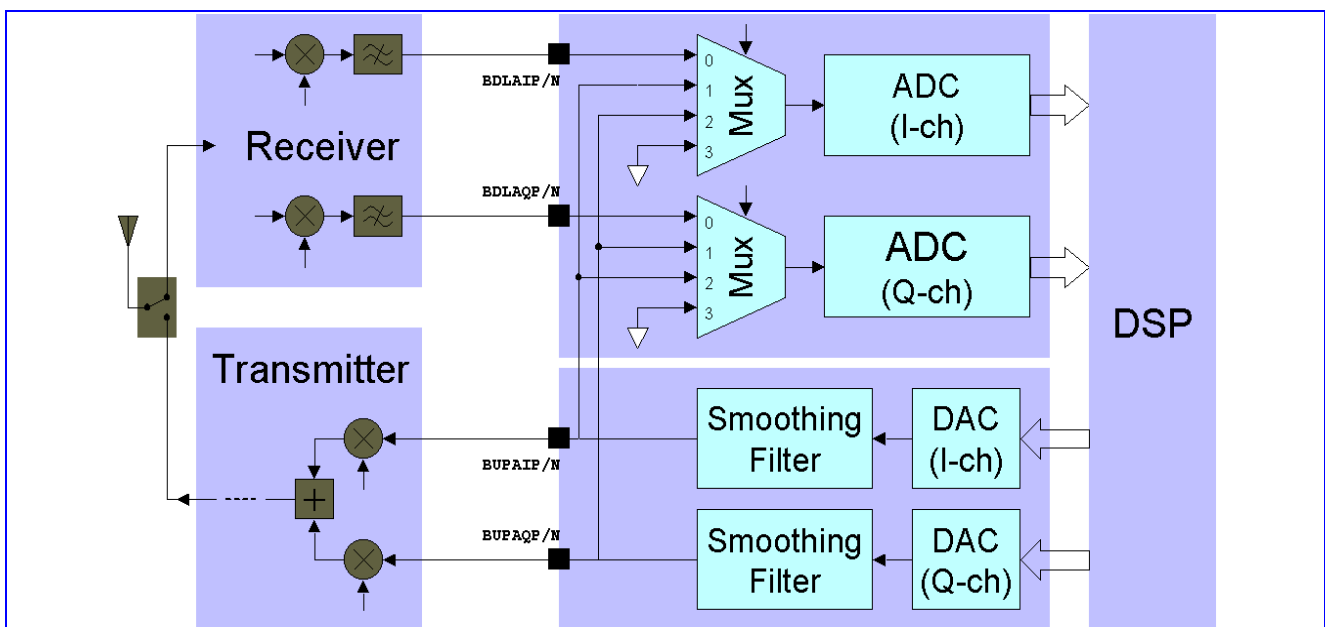

Figure 95 Base-band A/D and D/A Offset and Gain Calibration
The base-band downlink receiver (RX), together with the base-band uplink transmitter (TX) introduced in the next section, provides necessary analog hardware for DSP algorithm to correct the mismatch and offset error. The connection for measurement of both RX/TX mismatch and gain error is shown in **Figure 95**, and the corresponding calibration procedure is described below.